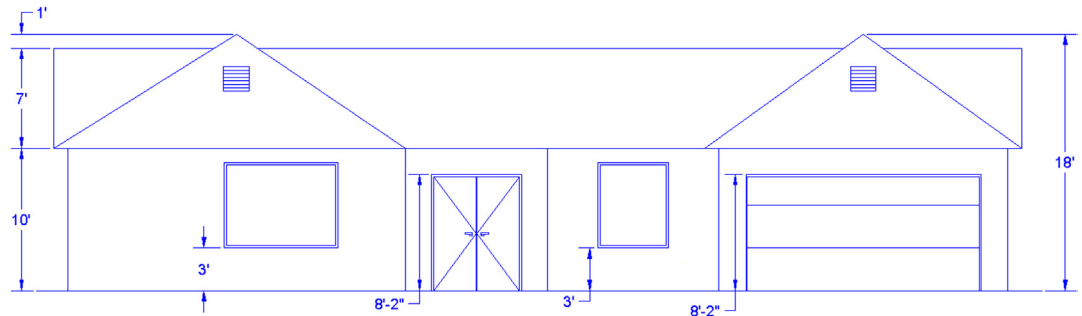

FIGURE 18.23
Step 2. Raise the elevation and add the doors and windows according to the provided dimensions, as seen in Figure 18.23. For simplicity, some details, such as gutters, are missing.